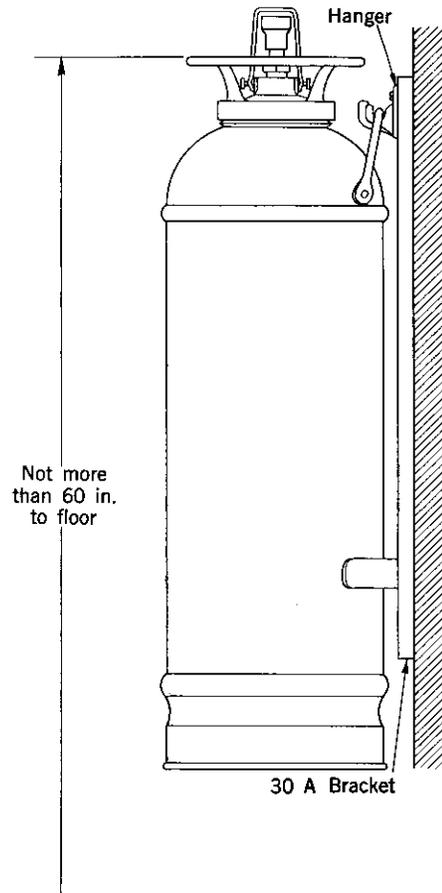

Fig. 4
4.01 Extinguishers should be mounted as shown in Fig. 4.